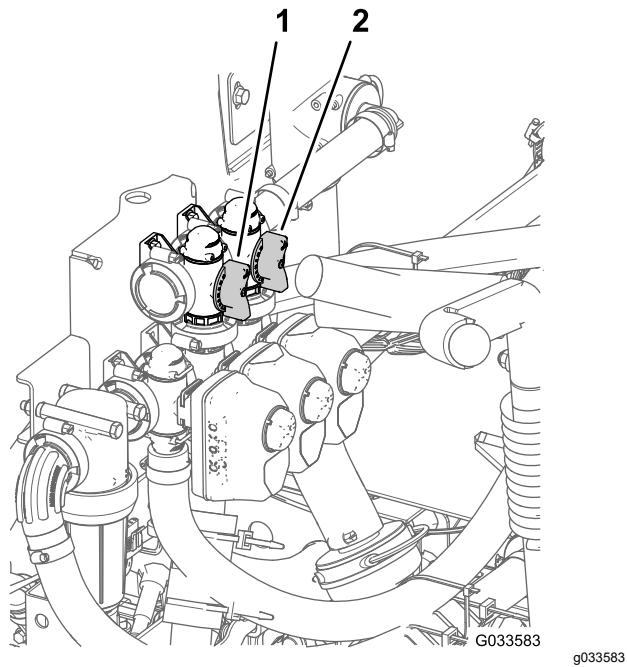

Figure 87
11. Adjust the agitation bypass valve (Figure 87) on the backside of the agitation valve until the pressure reading on the gauge is 6.9 bar (100 psi).
- 8. Adjust the master section-bypass handle to control the amount of agitation occurring in the tank (Figure 87).